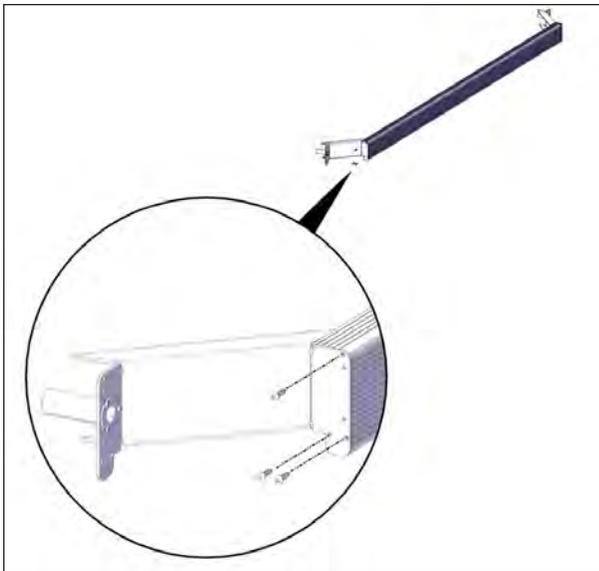
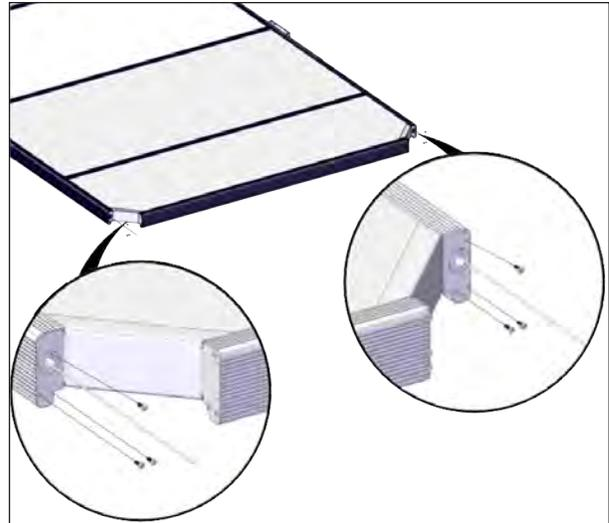

FIGURE 55: CORNER BRACKET SUPPORT INSTALLATION
FIGURE 56: END C-CHANNEL INSTALLATION
2. Install the left and right corner bracket supports on each end C-channel by using a #2 square screwdriver and the #8 X 1/2" screw, see Figure 55.
Figure 55 and Figure 56 display the proper orientation of the left and right brackets.
3. Take the assemblies made at the previous step (Figure 55) and slide them on the edge panels (Figure 56) located on each side of the cover. Make sure that the wire passes through the hexagonal guide bushings (Figure
4. Use a #2 square screwdriver to secure the corner bracket on the C-channel end by using the #8 X 1/2" screws (Figure 56).